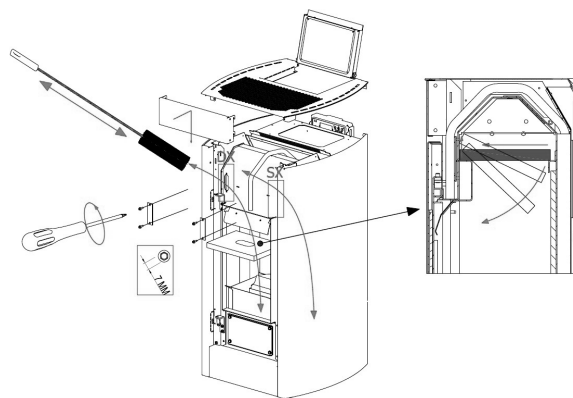

Fig. 85 - Cleaning
- Remove the upper deflector (see **Fig. 85**), vacuum any ash and clean the internal combustion chamber walls.